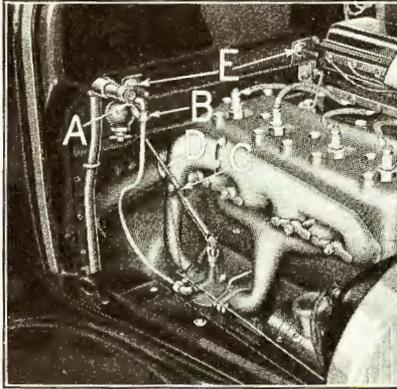
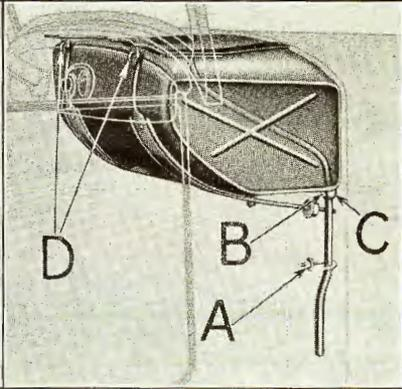

Fig. 561
Fig. 562
Close shutoff cock on sediment bulb. See "A" Fig. 561.
1232 After draining gasoline from tank, loosen nut on end of overflow pipe clamp (see "A" Fig. 562).
- 1234** Remove cotter key (see "C" Fig. 561) and withdraw carburetor adjusting rod "D" through dash.
- 1235** Run off the two gasoline tank strap nuts (see "E" Fig. 561 and lift off washers.
- 1242** Withdraw gasoline tank straps through dash into body, bending the straps straight down as shown in Fig. 564. The straps are hooked into brackets which are located at the top of the cowl (see "D" Fig. 562). By unhooking the straps from these brackets, the straps can then be withdrawn.
- 1246 Hook the two tank straps into brackets at top of cowl (see "D" Fig. 562). Bend the straps so they will fit closely against tank and insert the threaded ends of straps through holes in dash. Place a spacer washer and lock washer over ends of straps. Start nuts on ends of straps and run them down tightly (see "E" Fig. 561).
- 1247 Insert overflow pipe into sediment bulb connection (see "C" Fig. 562) lining up screw hole in pipe with set screw "B" in connection. The set screw is then run down until it enters pipe.
- 1248 Position overflow pipe clamp over pipe (see "A" Fig. 562) running down nut tightly on end of clamp.
- 1250 Insert feed pipe into sediment bulb elbow and run down feed pipe pack nut (see "B" Fig. 561).
- 1251 Open shutoff cock on sediment bulb (see "A" Fig. 561).